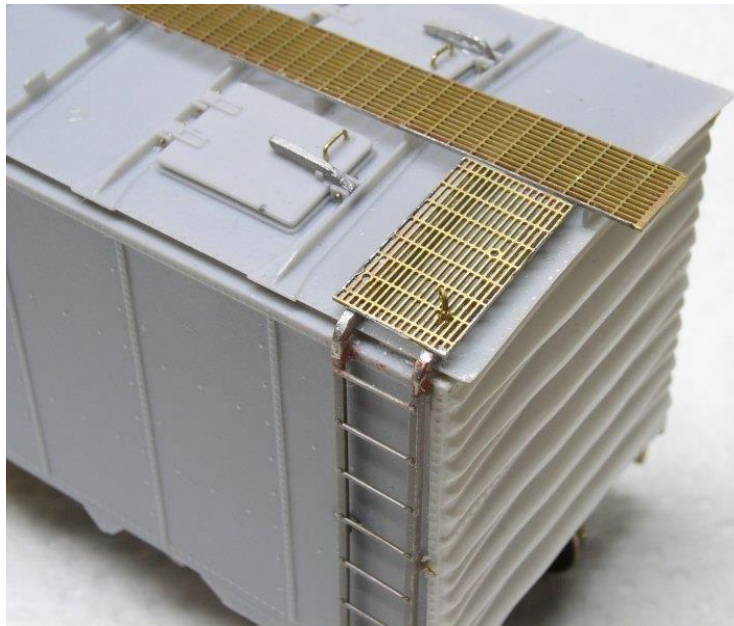

Figure SRB5
5. Glue the angled eyelets in the hole in the lower right corner of the lateral running boards. Do not try to solder these in. The pewter lateral running board stiles are low melting and will be ruined. See Figure SRB5.